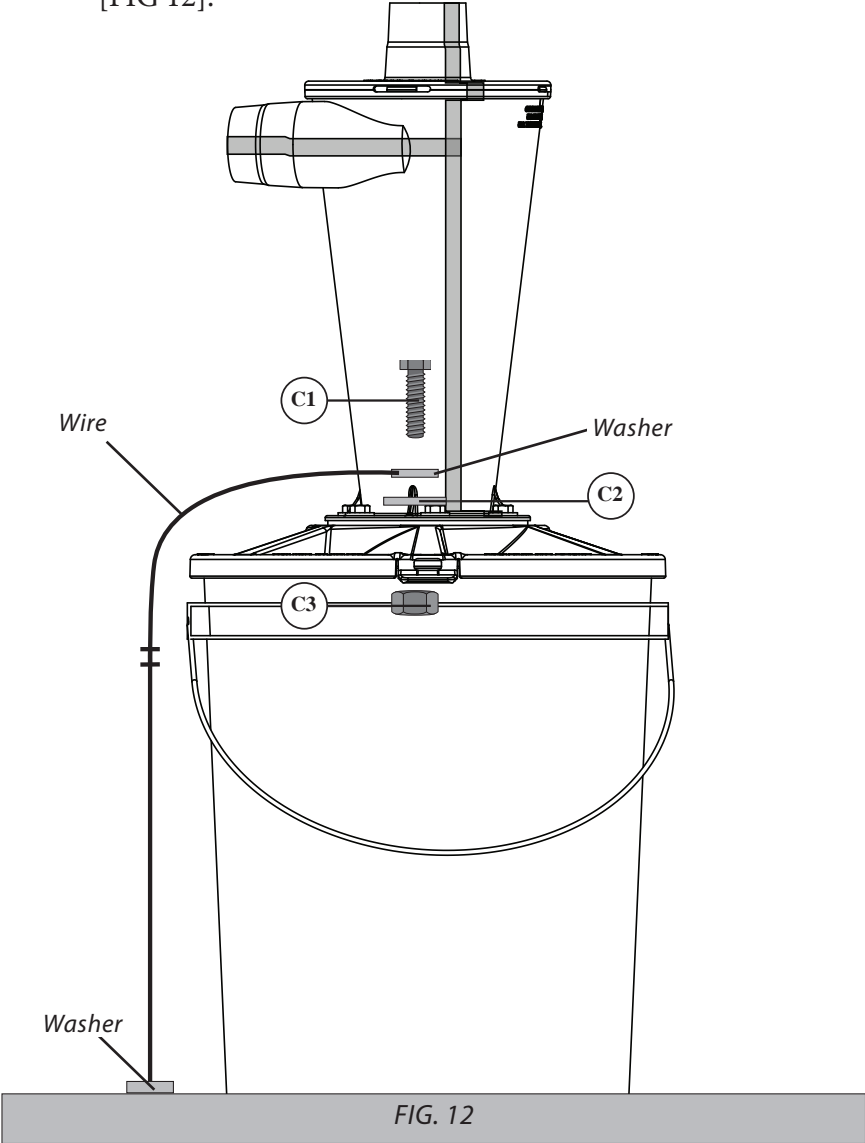

FIG. 12
- 2 For added grounding, attach a self-supplied wire with a ring terminal on one end and a washer tied to the other end when installing one of the bolts in step 1 on page 10. The wire must be long enough for the washer to lie on the floor [FIG 12].